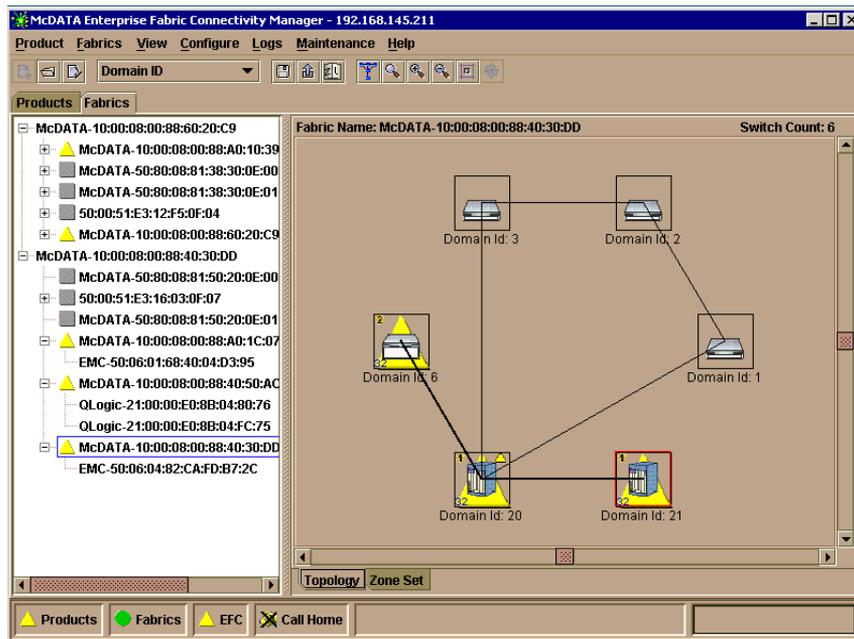

Figure 7 SAN Pilot
- Capture a SAN profile of the McDATA and HP SANs, identifying the number of devices in each SAN. By projecting the total number of devices and switches expected in each fabric when the LSANs are active, you can quickly determine the status of the SAN by issuing the commands `nsAllShow` and `fabricShow` on the HP fabric and using SAN Pilot (see Figure 7) or EFCM to gather similar information for the McDATA fabric. For example, on the HP side: